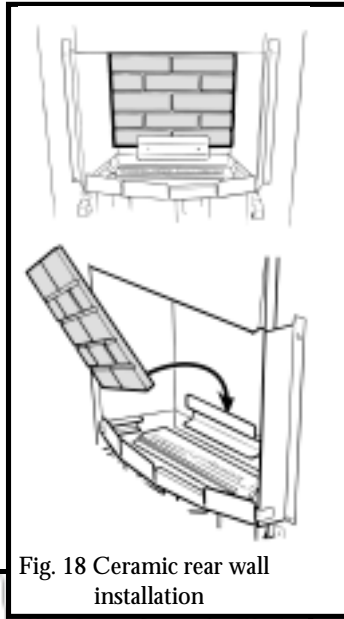

Fig. 18 Ceramic rear wall installation
10.1 With its feather edge at the top, place the ceramic rear wall into the channel at the back of the fire box. Push the wall flat against the rear of the fire box. (See figure 18).